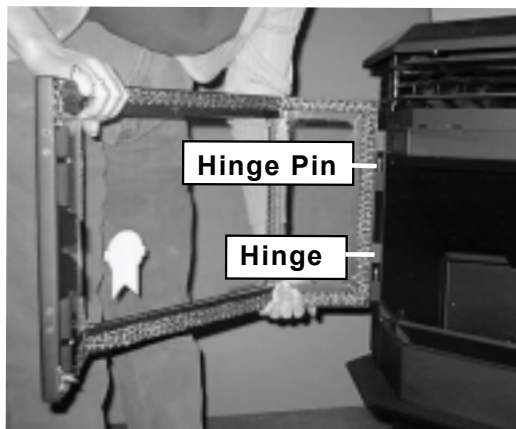

Figure 22.1
2. Line up hinges with hinge pins on appliance body, and slide door down until it sits securely on pins. **Figure 22.1.**